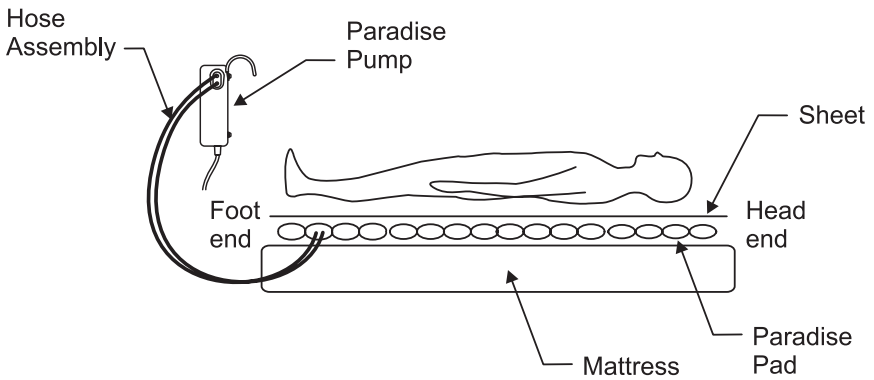

Figure 1—Paradise Pump System
2. Unroll the pad. With hose outlets positioned at the foot end of the bed, place the Paradise Pad on top of the mattress. See figure 1.